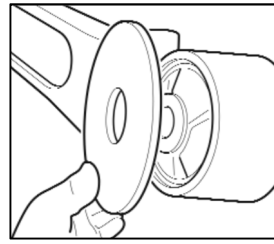

Fig.7
9. Remove wear washers and steel inner sleeves from the pivot bushes (Fig. 7 and 8).